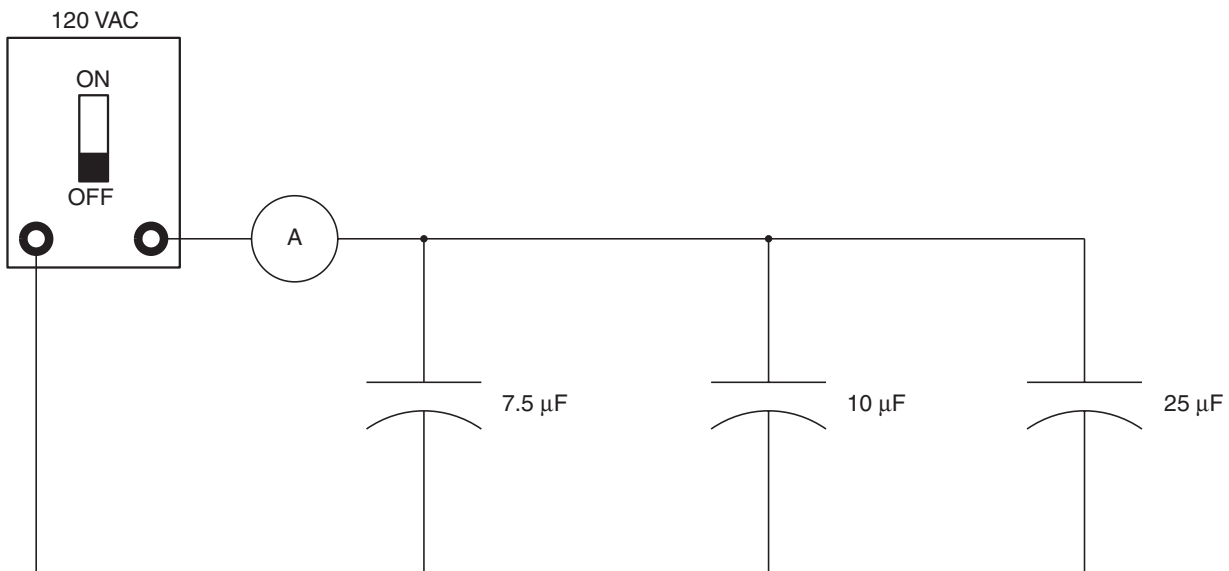

Figure 13-10 Capacitors connected in parallel.
22. Reconnect the three capacitors to form a parallel connection as shown in Figure 13-10.